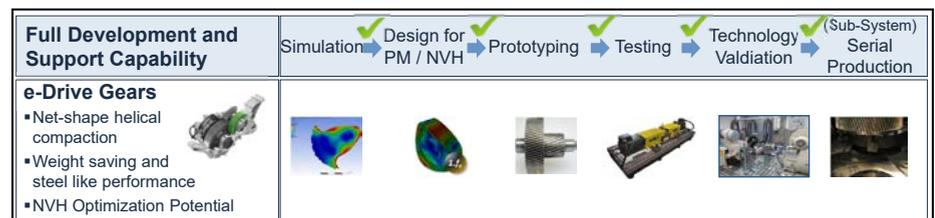

Figure 12 Driving product and system innovation with full development capability.
The e-Axle PM Gear case study shows the potential to apply technological differentiated powder metal (PM) gears for electrified transmissions. Starting with a system engineering discussion on the eDrive application, a complete process development has been successfully executed, being now ready to apply PM Gears for eDrive applications. Additionally a holistic testing approach on component and system level to improve the NVH behavior opens further potential to integrate PM Gears in current and future transmissions. Figure 12.